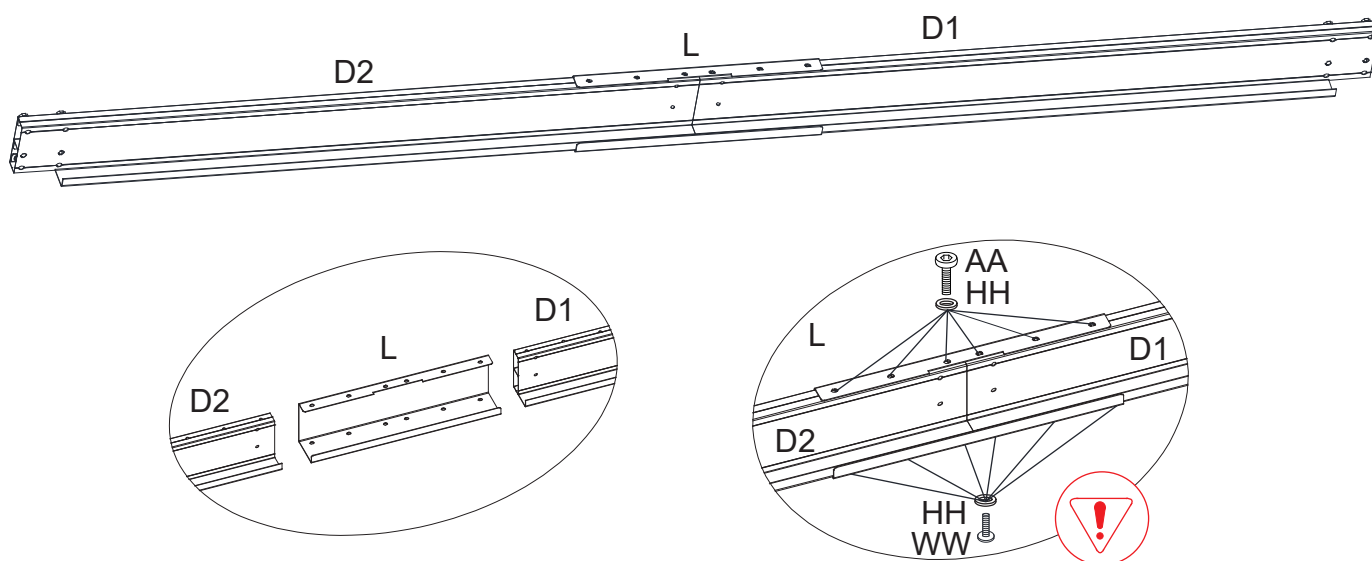

Figure1
1. Slide the Front Lintel (D1) and the Front Lintel (D2) into the Connector (L) by using Bolts (AA/WW) and Washer (HH). See Figure 1.